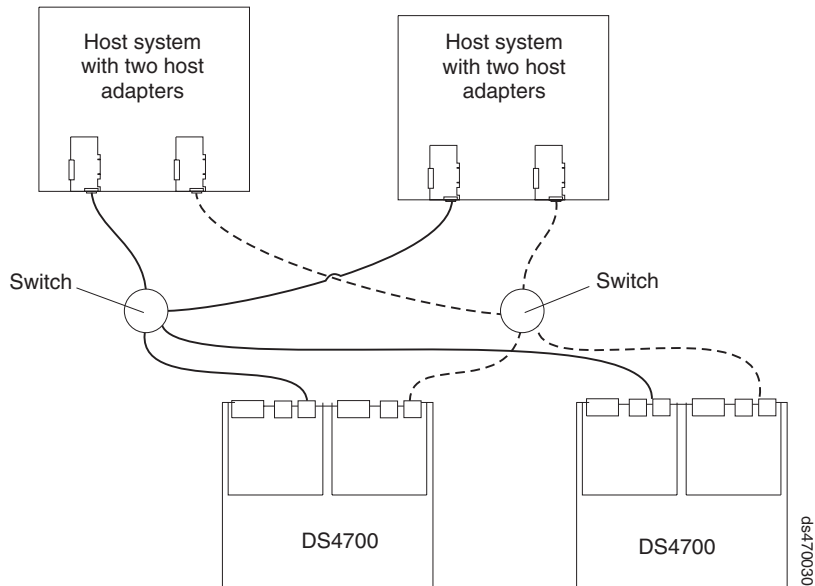

Figure 90. Example of two storage subsystems in a dual SAN environment
- Two storage subsystems in a dual SAN fabric configuration, as shown in Figure 90 on page 110
In Figure 90 on page 110, the fibre channel switches are not connected together. Each switch forms its own SAN fabric.